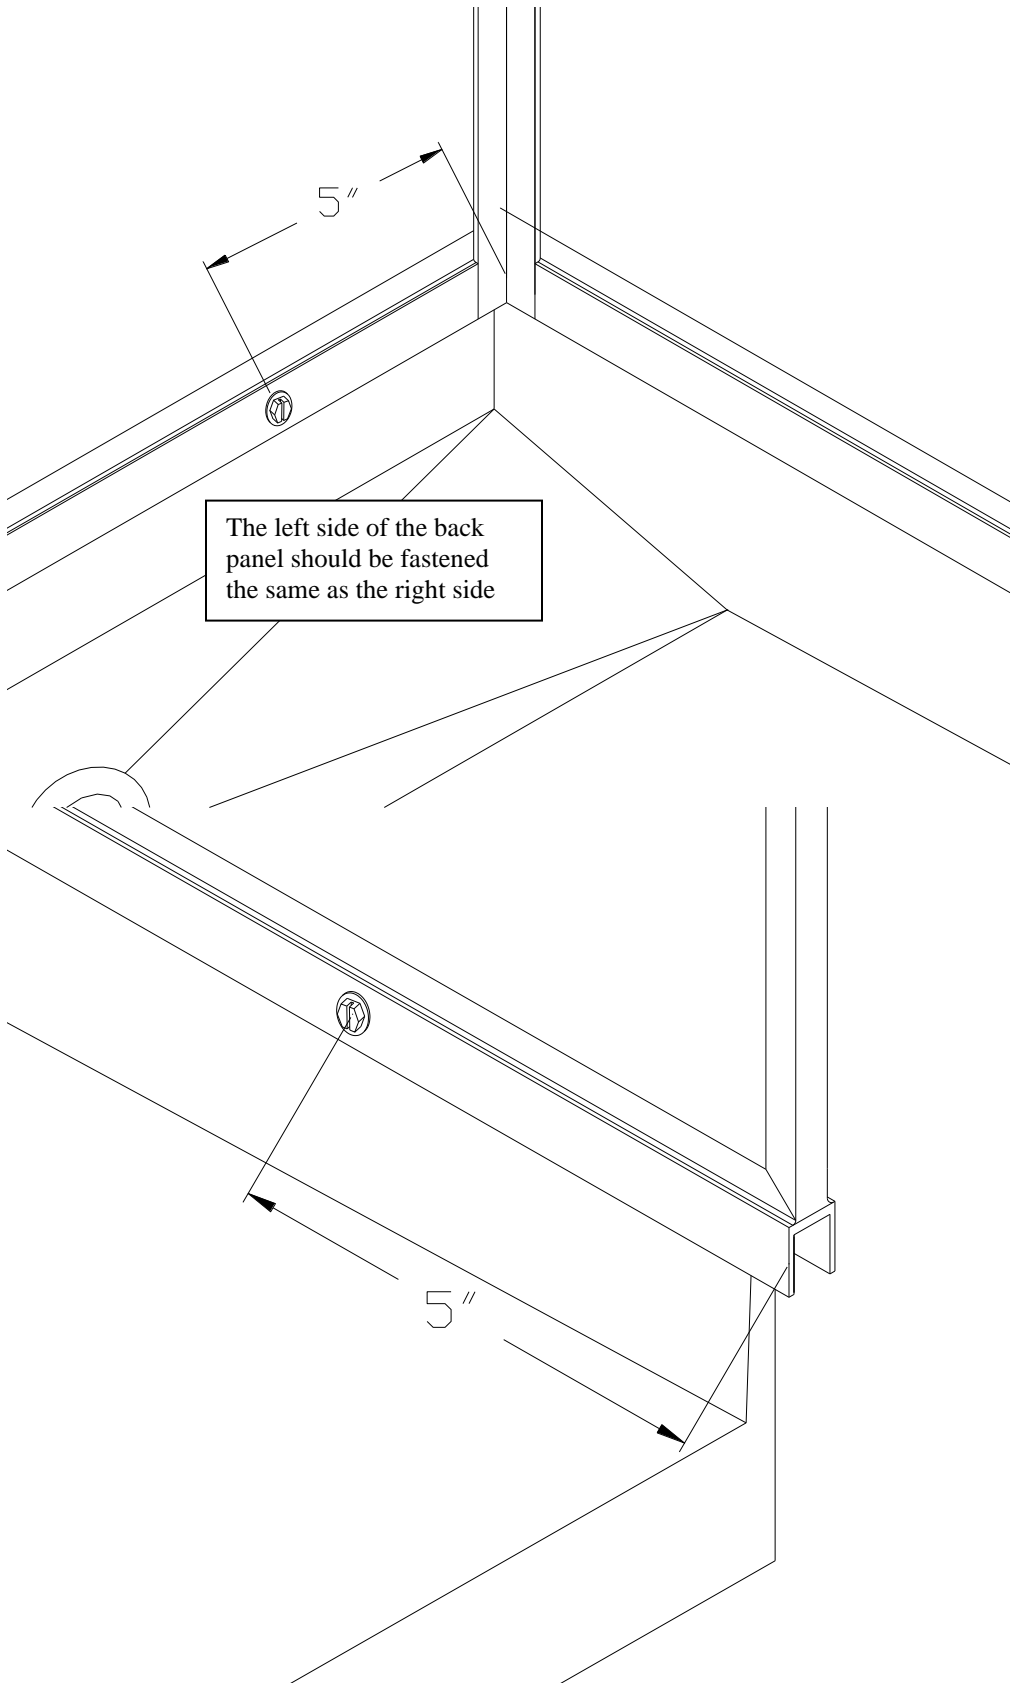

Figure 8.
3. Screw the Division Panels and Back Panels to the base units using #10 x 5/8" TEK hex washer head sheet metal screws (#2222). These screws are self drilling and do not require pilot holes. Use 2 screws per Back Panel and one screw per Division Panel. See Figure 8 for locations.
5. Screw the Division Panels (the back panels should already be fastened) to the base units using #10 x 5/8" TEK hex washer head sheet metal screws (#2222). These screws are self drilling and do not require pilot holes. Use 2 screws per back panel and one screw per Division Panel. See Figure 8 above for locations.